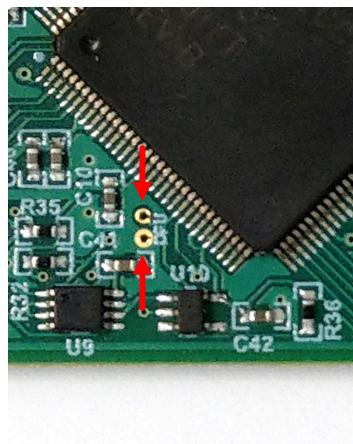

Figure 3-6. Test Points Used to Enter DFU Mode Manually
- ii. While shorting the two test points labeled "DFU" (shown in Figure 3-6) with a pair of tweezers (or wire), press and release the RESET button.